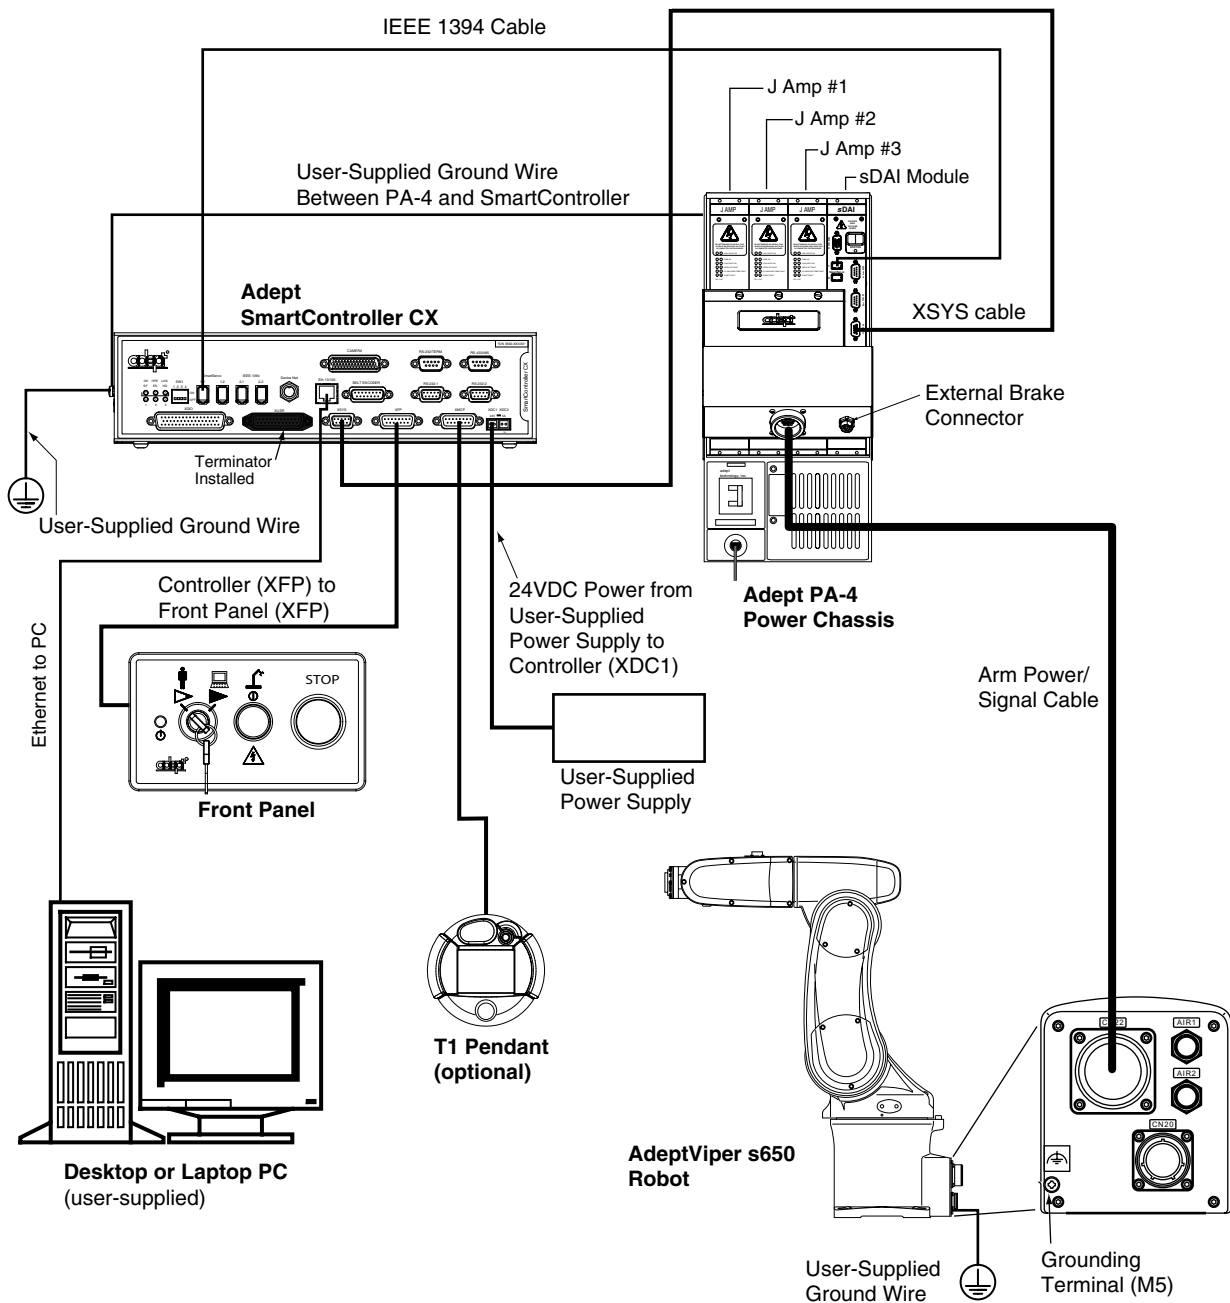
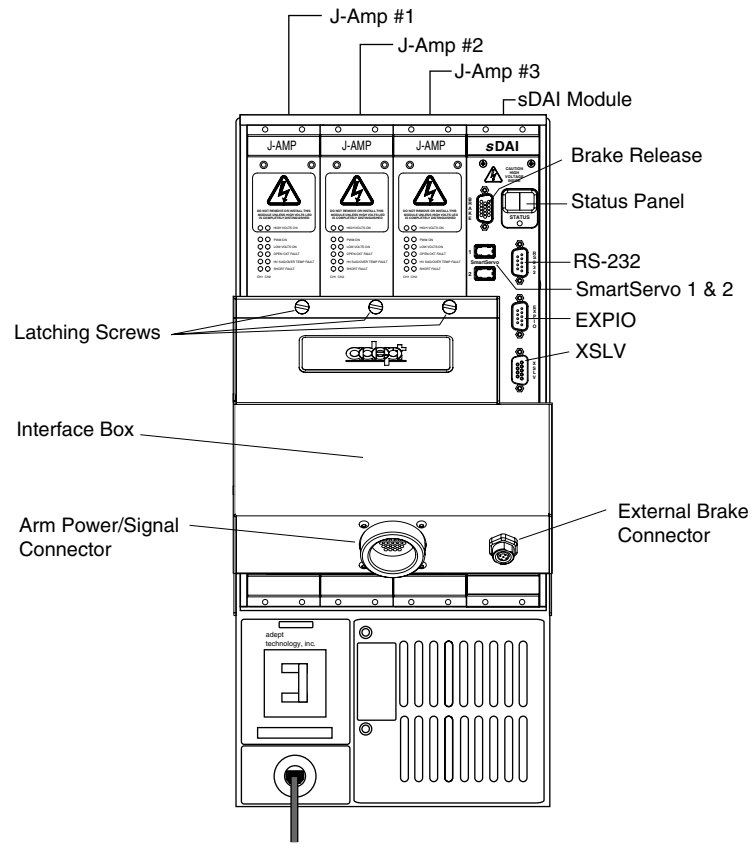

Figure 4-1. System Cable Diagram for AdeptViper s650 Robot
Figure 4-2. Adept PA-4 Power Chassis with sDAI Module
3. Install one end of the IEEE 1394 cable into the SmartServo port 1.1 connector on the SmartController, and install the other end into the SmartServo port 1 connector on the sDAI module in the PA-4. See **Figure 4-1 on page 39** and **Figure 4-2 on page 41**.